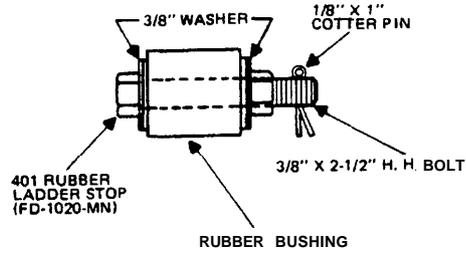

Figure 6. Ladder Stop.
3.03 A ladder stop (Figure 6) should be located a minimum of 1 inch from each end of the ladder track runs. The installer should drill a 13/32-inch hole, in the side of each ladder track at both ends of the track run (Figure 2a) to install the ladder stops. For additional security, a 9/32-inch hole should also be drilled through the channel, hanger bracket, and ladder track as shown in Figure 2a, then the drilled portions should be bolted together
Warning: Never stand on the rolling ladders when removing or replacing ladder track. Use a platform or an A-type ladder and replace the ladder stop as soon as the related work operation has been completed (Figure 6).